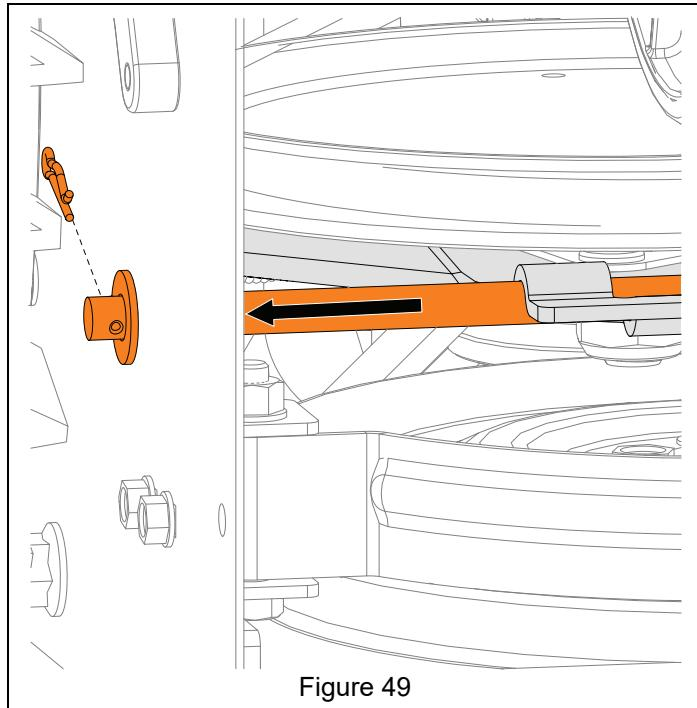

Figure 49
3. Reinstall pivot rod through swing gate and secure in tractor frame with flat steel washer and hairpin. See Figure 49.